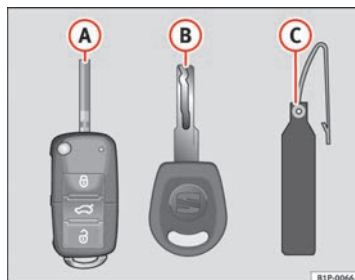

Fig. 61 Set of keys
- one remote control key ⇒ fig. 61 (A) with folding key bit,
- a key without remote control (B),
- a plastic key tab* (C).